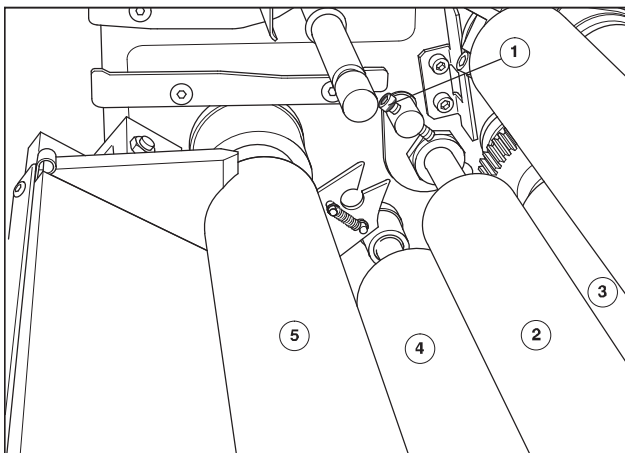

Fig. 45 Adjusting the 1st ink transfer roller
1. Set the ink stripe between the 1st ink transfer roller (Fig. 45/2) and the ink distributors (Fig. 45/3 and 45/4) to 4 mm using the black adjusting screw (Fig. 45/1).
The ink vibrator is pressed by spring pressure against the ink fountain roller and the 1st ink transfer roller; it need not be adjusted. - Ink stripe width to the ink fountain roller (Fig. 45/5) and to the ink distributor (Fig. 45/4): 3 mm in each case.